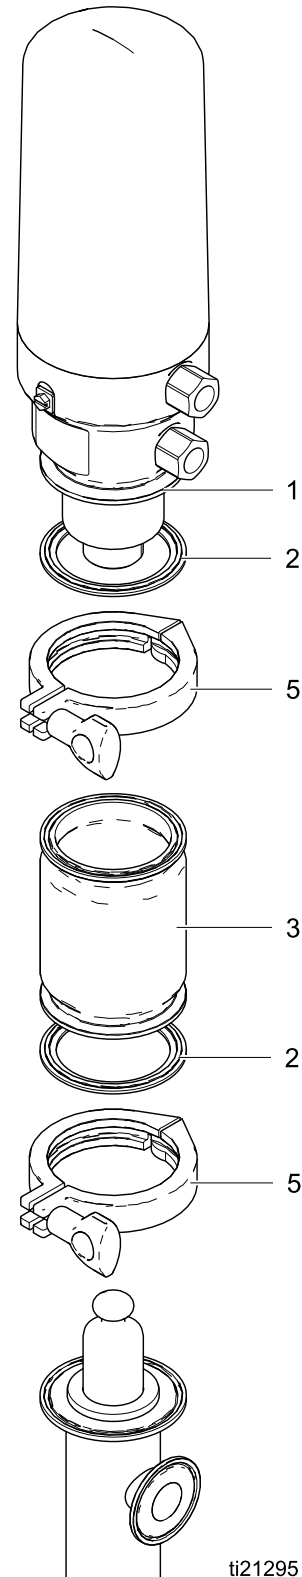

Figure 11
2. See Figure 11, page 17.
3. Release the top clamp (5).
5. Release the bottom clamp (5). Remove connector (3) and gasket (2).